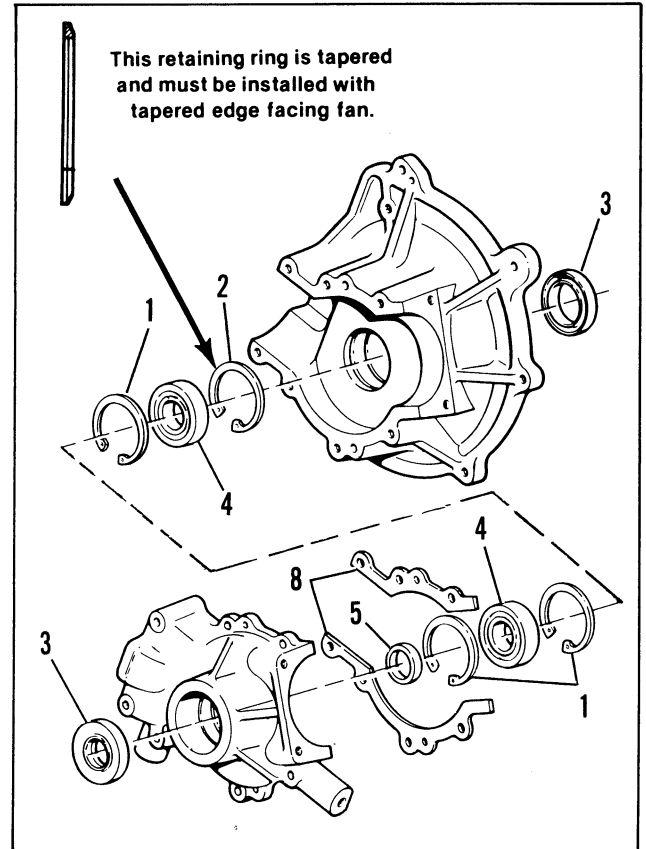

Figure 65 - Crankcase Oil Seals and Retaining Rings
- i. Pull out the oil seals (3), Figure 65.
- j. Remove retaining rings (1) and tapered retaining ring (2) from the crankcase halves, Figure 65.
- k. Remove spacer (5) and gasket (8), Figure 65.
- l. Install crankcase halves on press bed and press crankcase bearings (4) out, Figure 65.
Assembly (Figure 65)